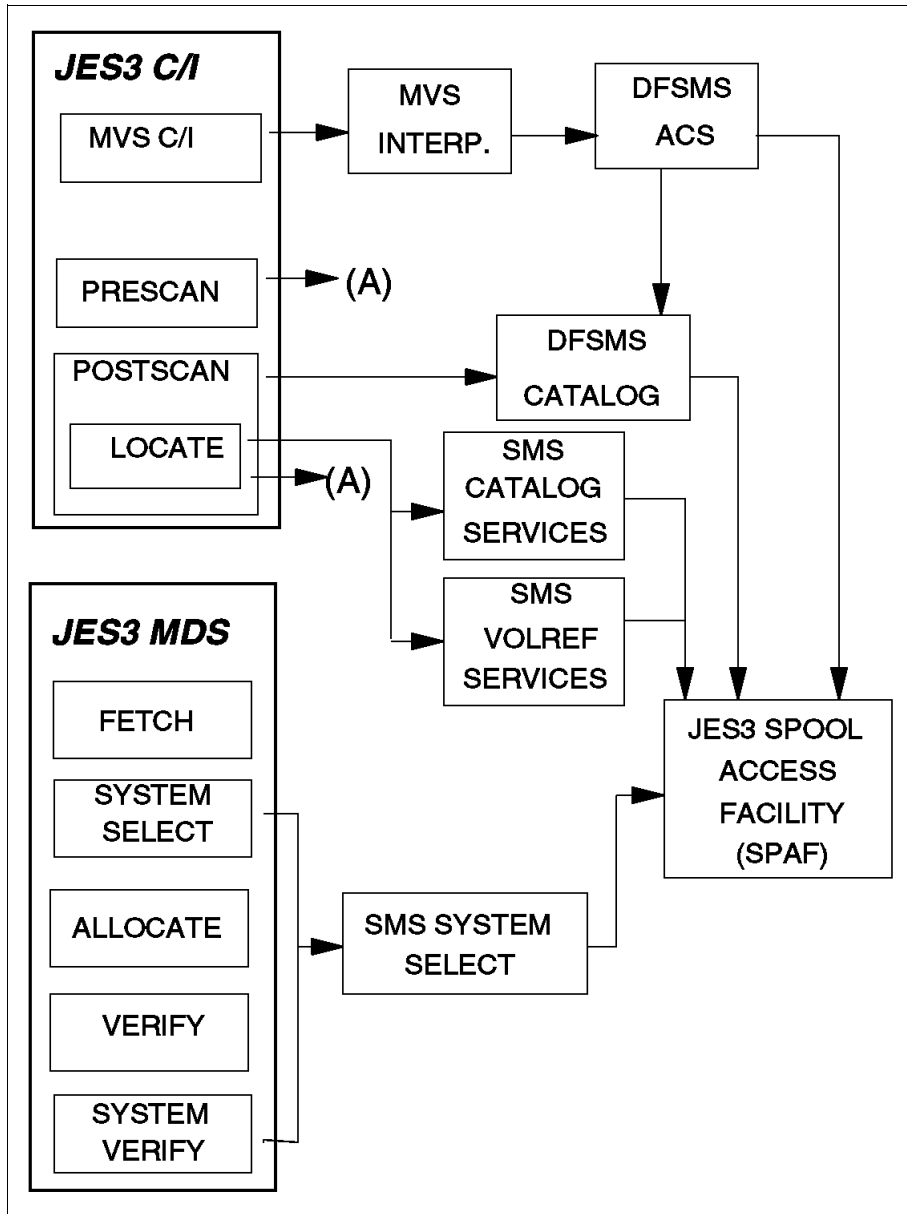

Figure C-11 JES3 CI and MDS processing phases
- ▶ Two calls, one from the prescan phase and the other call from the locate processing phase, are made to the new DFSMS support module, as shown in Figure C-11 on page 853.
Figure C-11 on page 853 shows the JES3 processing phases for CI and MDS. The processing phases include the support for system-managed direct access storage device (DASD) data sets.